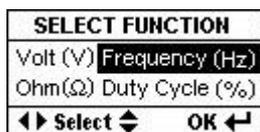

Fig.16
- While on the menu display screen (Fig.5 above) select [Frequency (Hz)] as Fig. 16 below by pressing \blacktriangleright key once and then press OK \downarrow key will enter into the Frequency simulation selection menu (Fig.17) below. Here the highlighted display is on Sine Wave icon. Press OK \downarrow key again will enter into Sine wave simulation mode (Fig. 18 below).